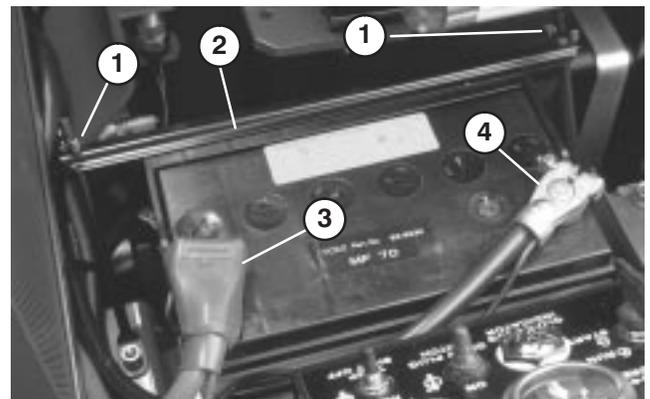

Figure 5
2. Remove two wing nuts and hold down strap that secures battery (Fig. 5). Lift battery out of chassis. Keep wing nuts and hold down strap in safe place for later use.